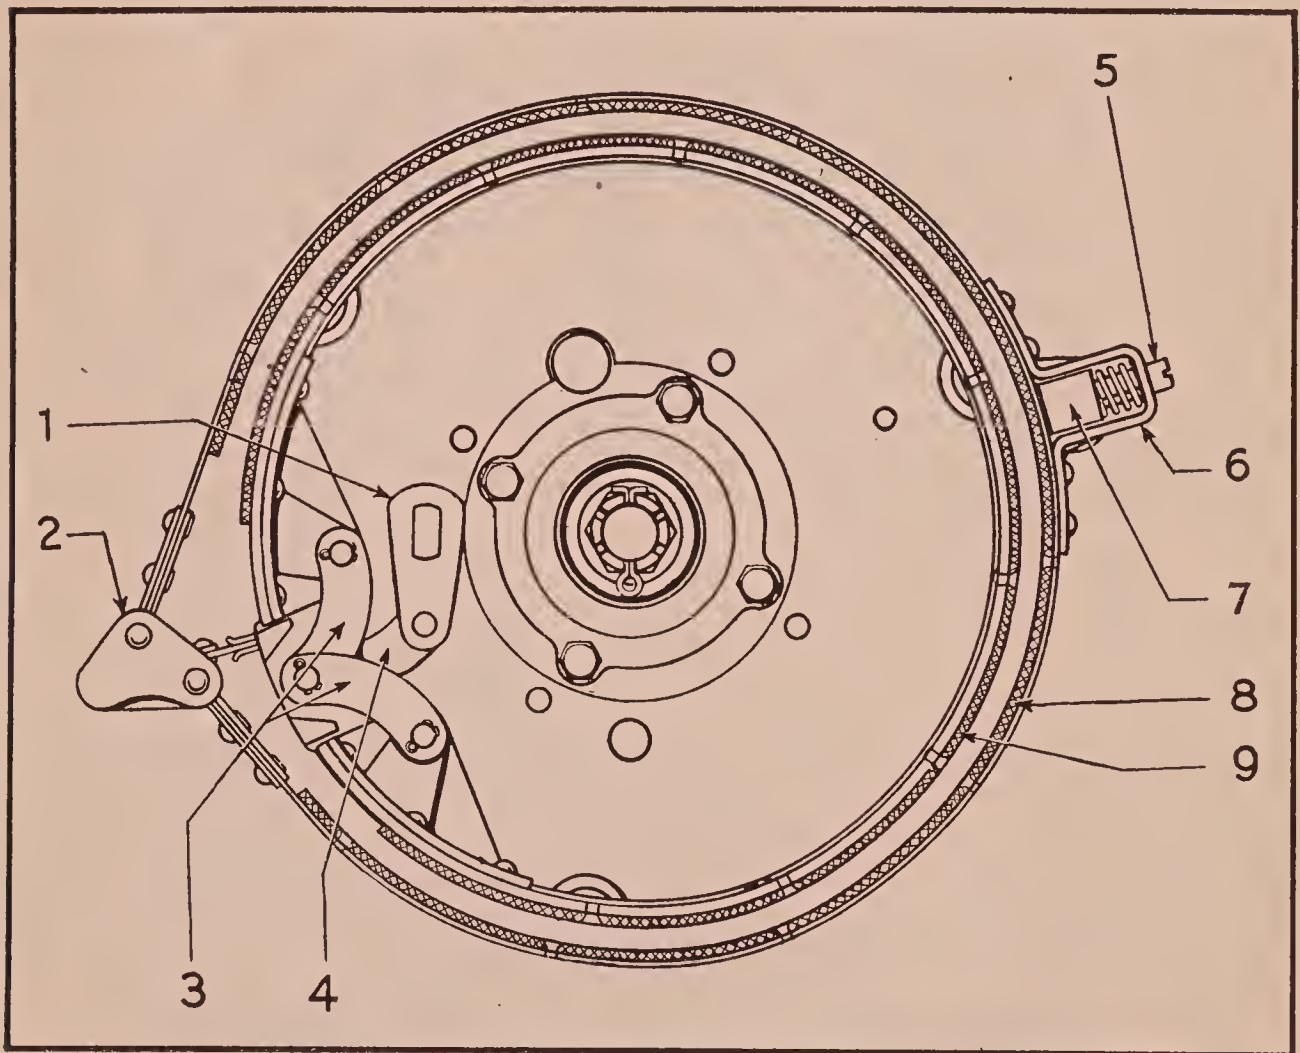

Fig. 32. Brake Bands
2. At the anchor-pin adjusting-screw (5, fig. 32), insert a heavy card, about 1-32" (0.8 mm.) in thickness, between the brake lining and the brake drum. Turn the adjusting-screw inward—to the right, when facing it, at the same time moving the card from side to side, until the latter can no longer be freely moved, when the adjusting-screw should be given a half-turn to the left.